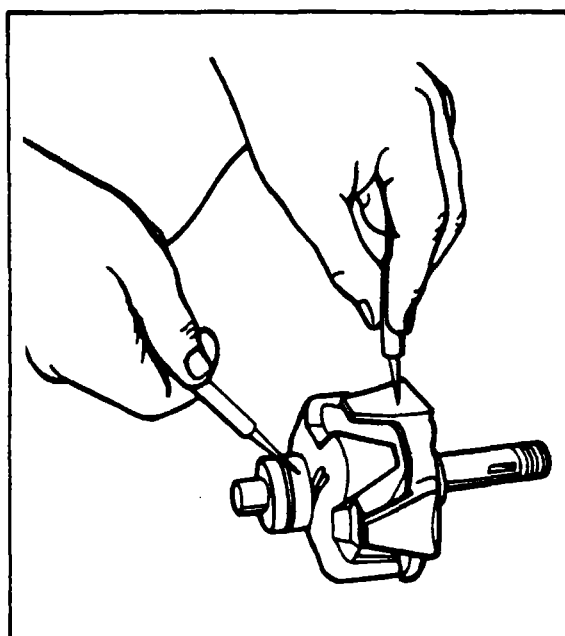
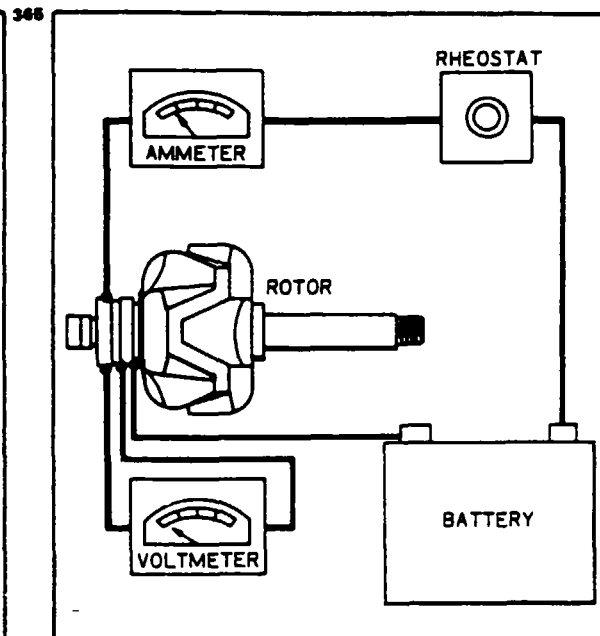

Figure 11-27. Testing Rotor for Ground
Figure 11-28. Testing Rotor for Shorts
a. Rotor: The rotor should be tested for grounded or shorted windings. The ground test can be made with test probes, connected in series with a 110 volt test lamp, an ohmmeter or any type of continuity tester. (Refer to Figure 11-27.) There must not be any continuity between the slip rings and the rotor shaft or poles. To test for shorted turns in the rotor winding, connect a voltmeter, ammeter and rheostat as shown in Figure 11-28, or use an ohmmeter. Rotor current draw and resistance are listed in the specifications given in Paragraph 11-39. Excessive current draw or a low ohmmeter reading indicates shorted windings. No current draw or an infinite ohmmeter reading would indicate an open winding.